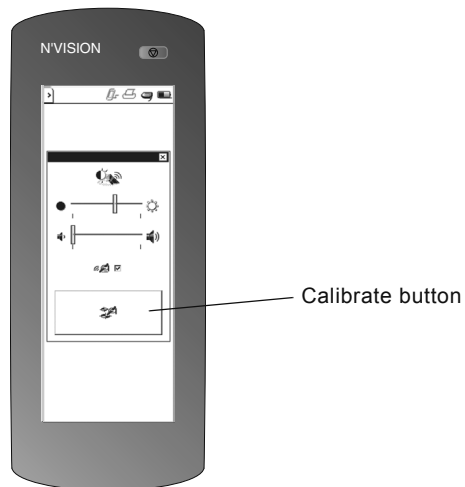

Figure 34. *Calibrating the display.*
- Press and hold the **Programming (P)** key while the programmer is powering up.
- From the slider bar, select the **Settings** button, () then select the **Calibrate** button (Figure 34).